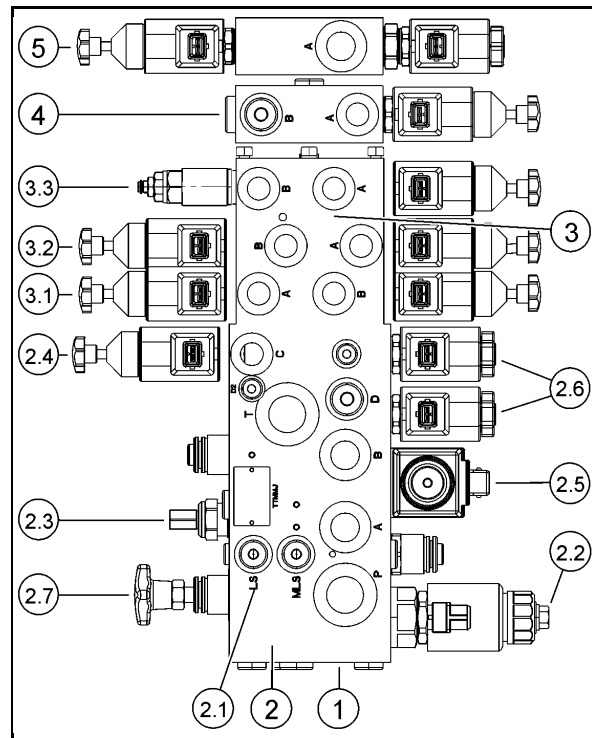

Fig. 40
1. Screw the load-sensing control line (2) into the connecting aperture (Fig. 40/2.1) of the electro-hydraulic control block.
- 2.1 screw the load-sensing screw (Fig. 40/2.7) in as far as it will go.
3. Connect the load-sensing control line (2) to the load-sensing connector of the tractor.
4. Connect the hydraulic connector "Return line" (4) to a free return port of the tractor.
5. Connect the hydraulic connector "Flow line" (5) directly to the hydraulic pump of the tractor.